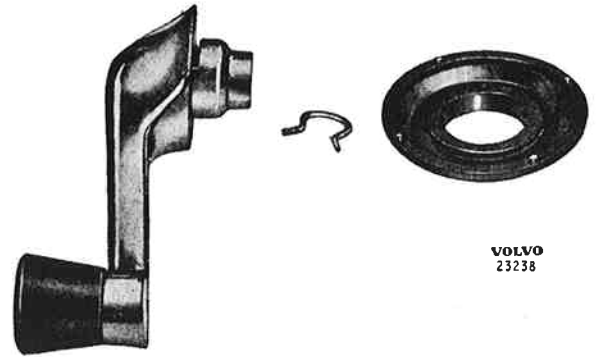

Fig. 18. Window winder with circlip
2. Remove the door handle and window winding handle. These are removed by prising out the locking washer which holds them with tool SVO 2297, see Fig. 17. The window winder, locking washer and circlip are illustrated in Fig. 18.